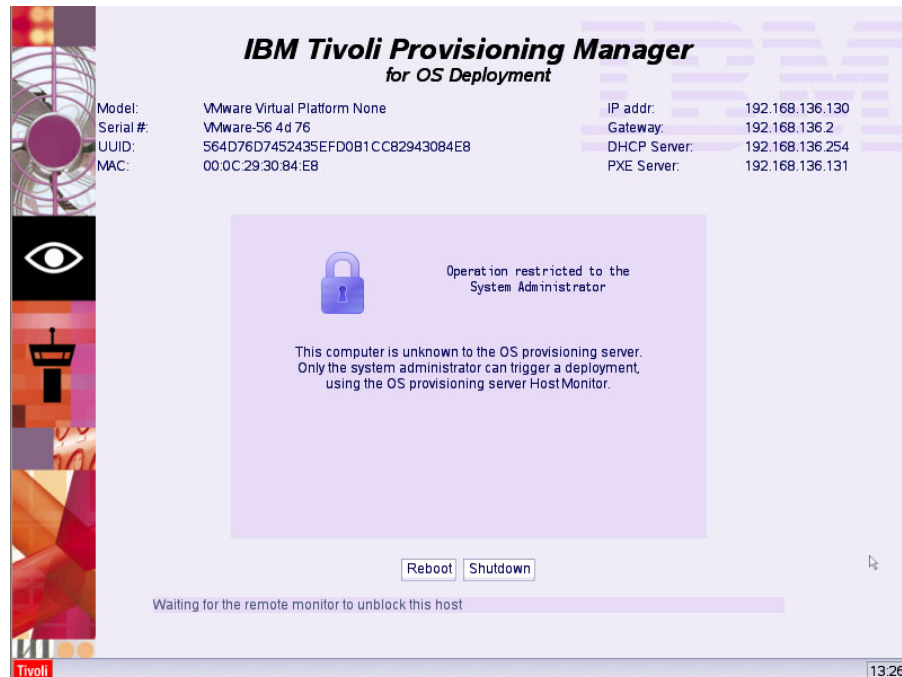

Figure 3-5 Booting the system to be cloned
1. Power on the Window XP System that is to be cloned and boot it to the network so that Tivoli Provisioning Manager for OS Deployment can discover and manage it as shown in Figure 3-5 on page 59. After the TPM server identifies the computer and writes a basic hardware scan data into the Tivoli Provisioning Manager for OS Deployment database, the guest will display the following screen. If you do not see this screen within a 30 seconds of the splash screen then you may have some server communication issues.